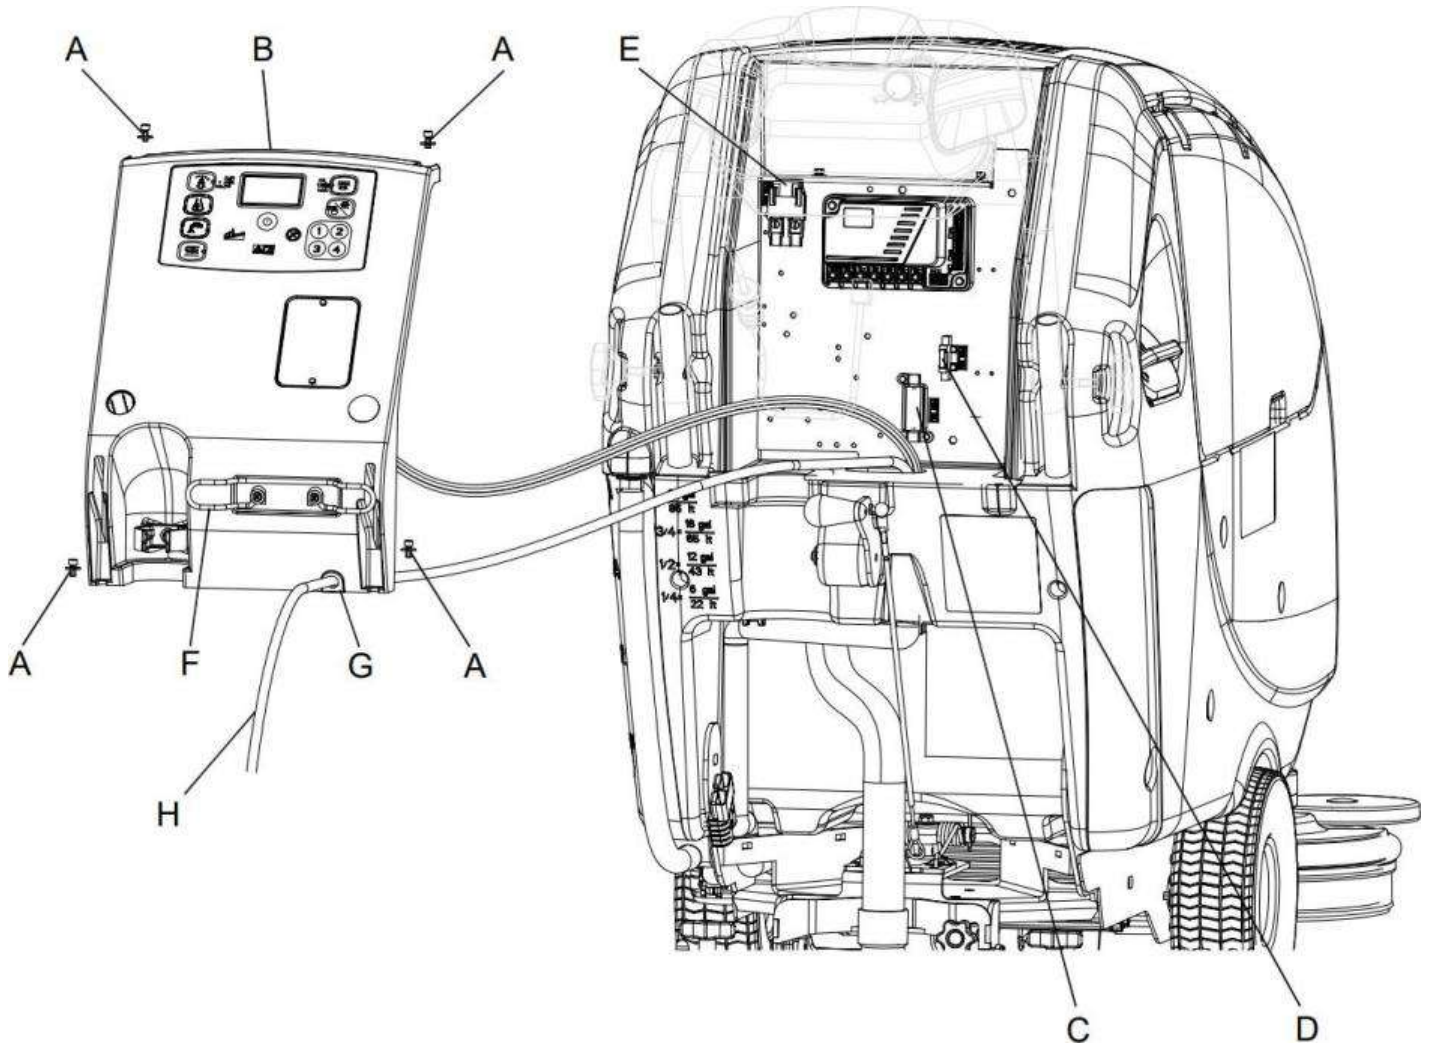

Figure 15
*The draining cycle can also be performed with the detergent tank (45) full of water, thus cleaning the system thoroughly. It is advisable to perform this type of draining to clean the system from dirt and deposits if the machine has not been used/ cleaned for a long time.*
*The draining cycle can be performed also to quickly fill the detergent supply hose when the tank (45) is full but the system is still empty.*
1. Disconnect the battery connector (12).
2. Move aside the recovery water drain hose (16).
3. Remove the battery charger cable (H, Fig. 15) from the cable holder (F).
4. Remove the screws (A) and carefully move aside the panel (B) by disengaging the grommet (G) from its housing on the panel (B).